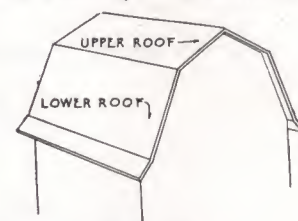

FIGURE 51
- (a) (This paragraph applies to houses with a gambrel roof—see Figure 51.)